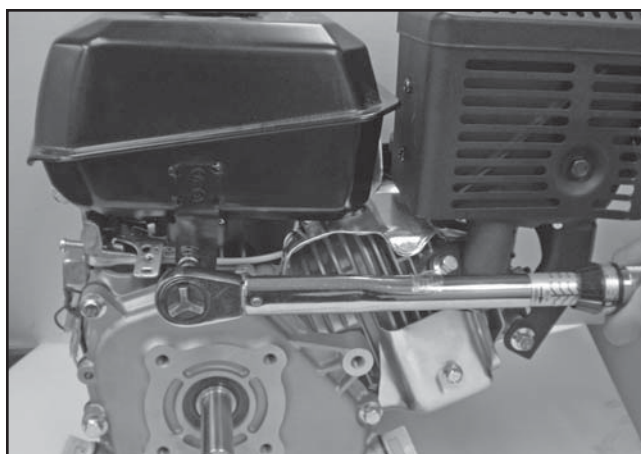

Figure 11-83. Torque Side Strap Screw.
3. Torque the side strap screw to 10 N·m (89 in. lb.). See Figure 11-83.